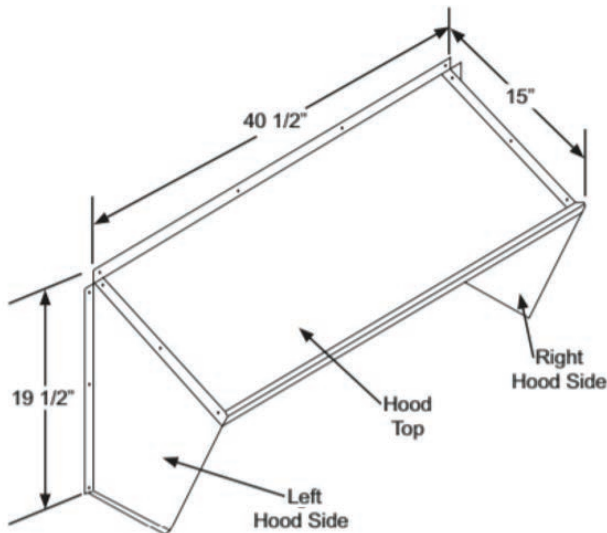

Fig. 32 — CRBARHOD001A00 Hood Sides and Top
- Using the provided hardware, screw the CRBARHOD001A00 hood sides and top together (see Fig. 32).